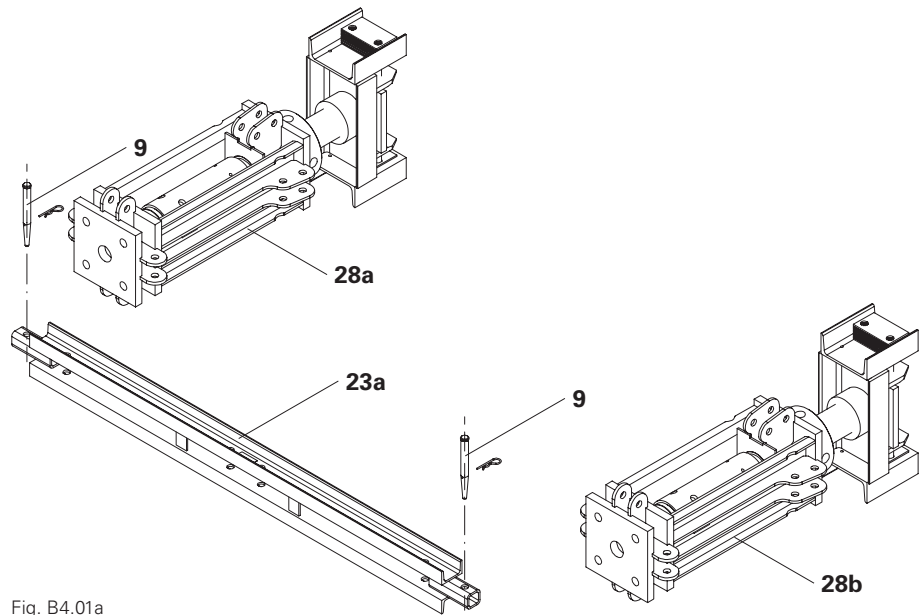

Fig. B4.01a
3. Connect the bottom horizontal ledger VST 200 (**23a**) to the second head spindle VST 100 (**28b**) using 1x fitting pin  $\varnothing$  21 mm (**9**) and secure with cotter pin 4/1, galv.(Fig. B4.01a)